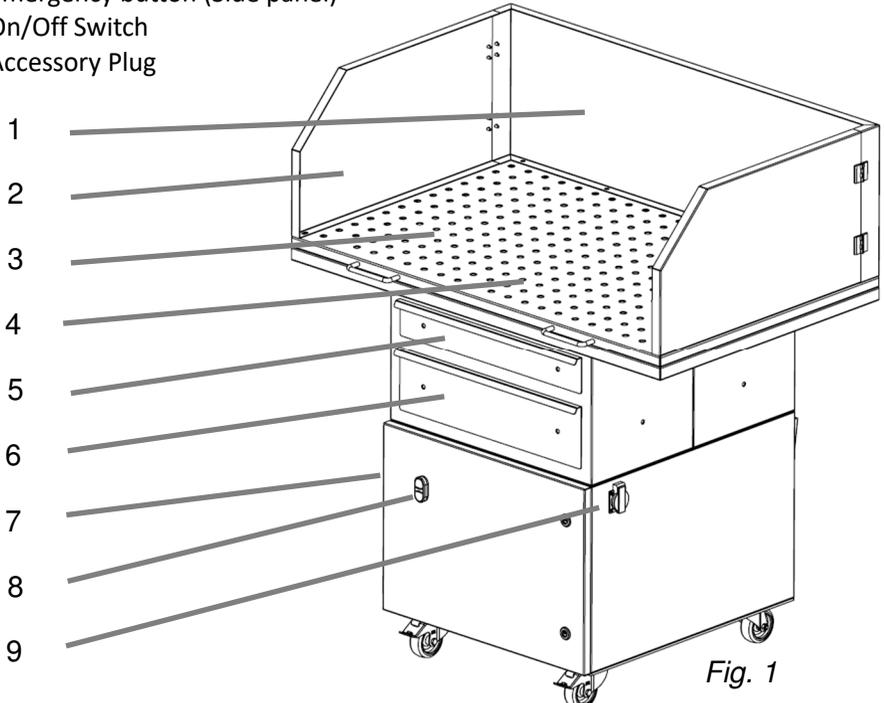

Fig. 1
Clean Spark Arrestor	Remove spark arrestor tray (see Fig. 1, item 5). Clean tray and spark filter with air gun.